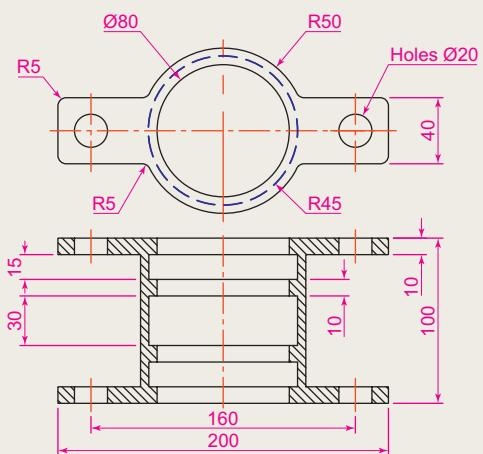

Fig. 14.44 Exercise 2
- Construct a 3D model drawing of the separating link shown in the two-view projection (Fig. 14.44). With the **Slice** tool, slice the model into two parts and remove the